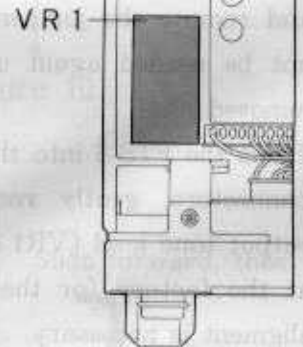

Figure 3
3. Position the FTS-8 so that the connecting pins are aligned with their mating connectors as shown in Figure 3, and gently press the FTS-8 into place.